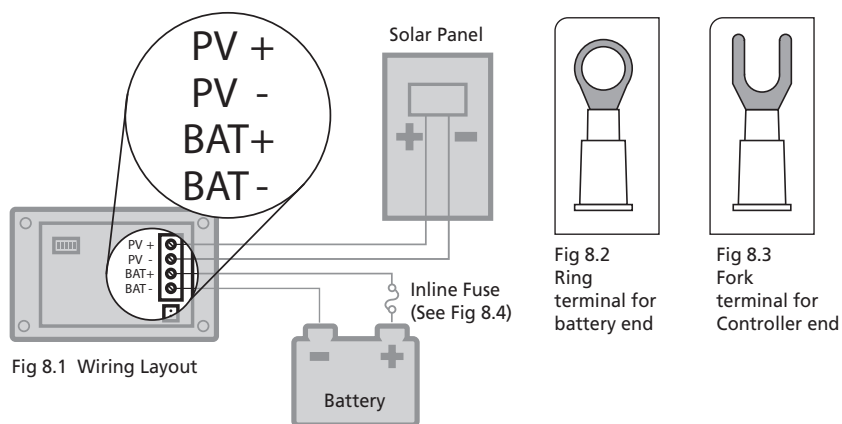

Fig 4.4. Wiring Layout
Please refer to wiring layout shown in Fig. 4.4. **NOTE: Wiring and Fuse sizes recommended below are based on use of a single 200W solar panel.**
A pair of 20 foot, AWG#12, pre-assembled cables with Multi-Contact (MC4) Male and Female Connectors is provided to connect the solar panel to the Charge Controller. Please refer to wiring layout at Fig. 4.4 below.
9. Crimp the bare end of the wires with the fork terminals provided (Fig 4.4).
10. Insert the terminals into the appropriate terminal on the Charge Controller (Fig 4.4): Positive PV lead is connected to the Positive terminal (marked "PV +") of the Charge Controller and the Negative PV lead is connected to the Negative terminal (marked "PV -") of the Charge Controller. ***Reverse polarity connection may damage the Charge Controller and the resulting damage will not be covered by warranty.***